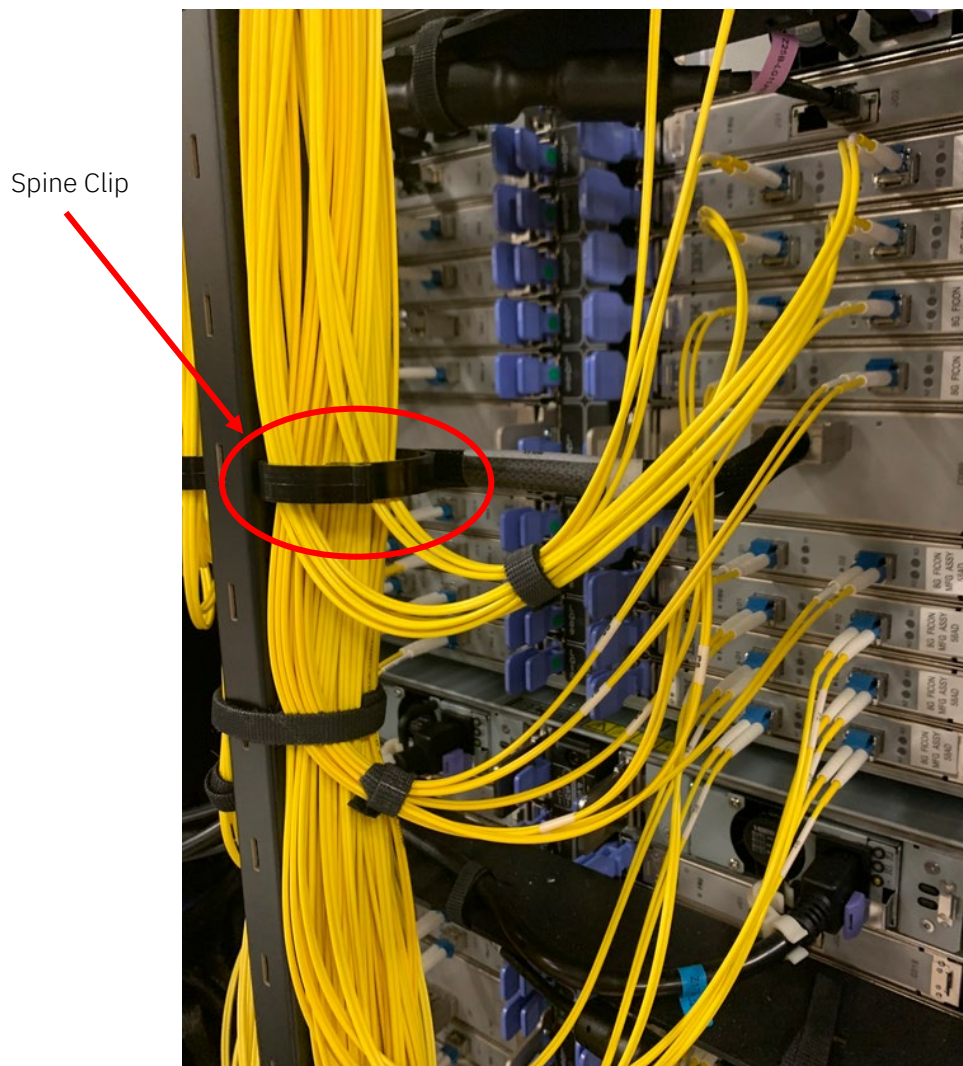

Figure 12: Spine Clips
- Spine/mini spine hardware clip (reference Figure 12),